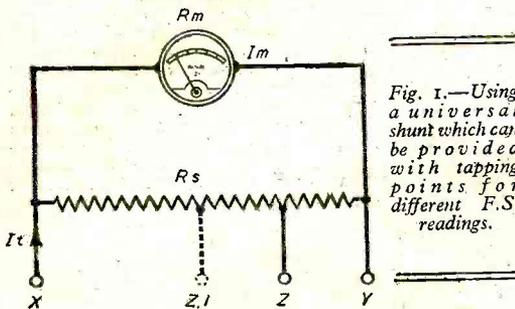

Fig. 1.—Using a universal shunt which can be provided with tapping points for different F.S. readings.
**A**N alternative method of increasing the scale range of a current meter is that shown in Fig. 1. This makes use of what is termed a universal shunt ( $R_s$ ) which is connected in the normal manner across the meter terminals. The resistance element can be a single item, having tapping points at suitable, pre-determined points, or it can be formed by a number of resistors connected in series, the values of the individual elements being such that their junction points provide the necessary tappings, and their sum total being equal to the total value of  $R_s$ . A big feature about this system, is that the effective shunting values of the
If we now consider Fig. 1, the current flowing in the meter will be equal to  $I_t \times \frac{R_s}{(R_m + R_s)}$ , if the current enters at X and leaves at Y. A simple example will prove this, the result being checked by the methods given in the previous article. Supposing the meter has an internal resistance of 100 ohms, and that the value of the shunt  $R_s$  is also 100 ohms. If the meter's F.S. is 1 mA., and if 2 mA. is applied to the circuit, i.e., X Y, we get: